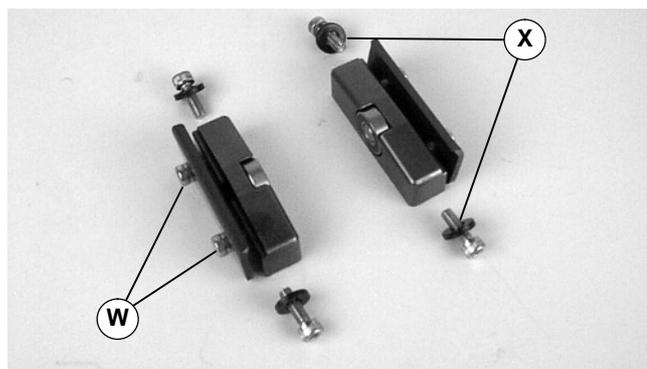

Figure 12
2. Loosen screws (W of Figure 12) and remove screws and washers (X).